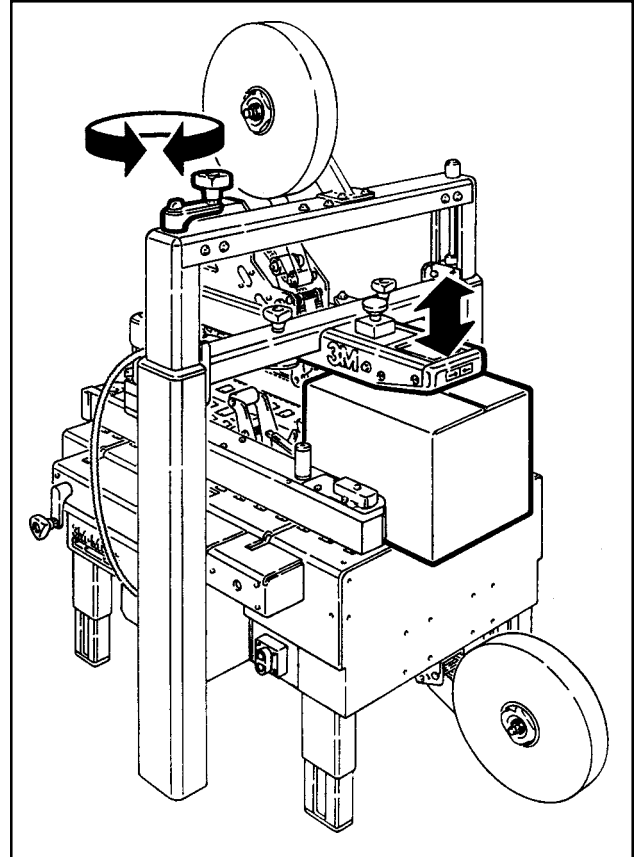

Figure 3-3 – Upper Taping Head
2. ADJUST UPPER TAPING HEAD (Figure 3-3)